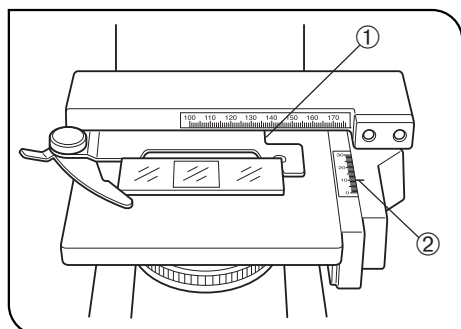
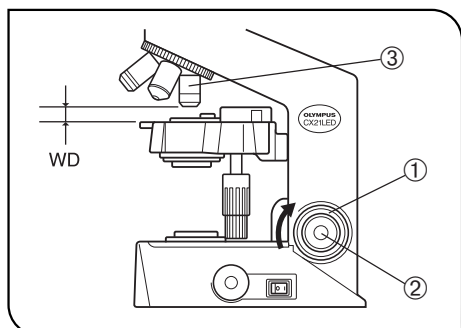

Fig. 6
Fig. 7
**Specimen holder scales (Fig. 6)**
1. The horizontal coordinate can be read at position ① on the specimen holder.
2. The vertical coordinate can be read at the position of index line ②.
**3 Adjusting the Focus (Fig. 7)**